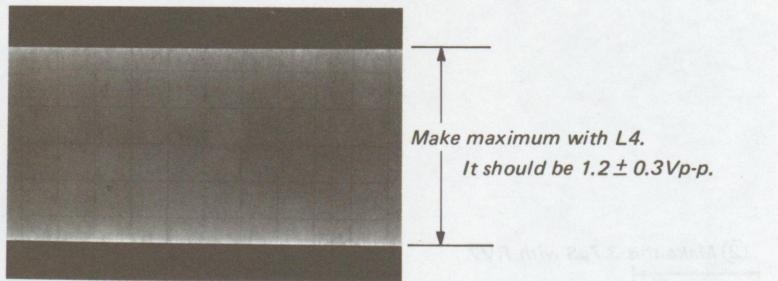

Fig. 5-40.
3. Turn L4 on the BA board for maximum amplitude of the 3.58 MHz waveform. (Note that it should be 1.2 ± 0.3 Vp-p.) (See Fig. 5-40.)